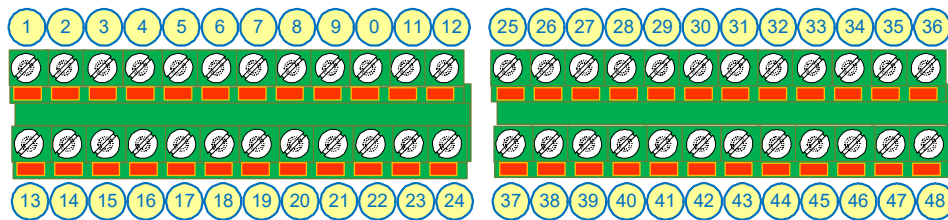

Figure 5-28: Control Module Terminal Connectors
Step 1. Extend the Data cable connected to Connection Box #1, out to the **Control Module** and connect it to the following terminals on the RS485 port of the Control Module (**Figure 5-28**).